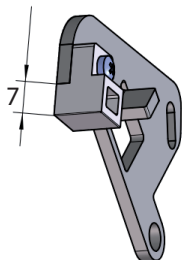

Figure 1
- 3-5 mm: Fit cover cap in accordance with figure 1 (rotated 180° in relation to delivery condition)